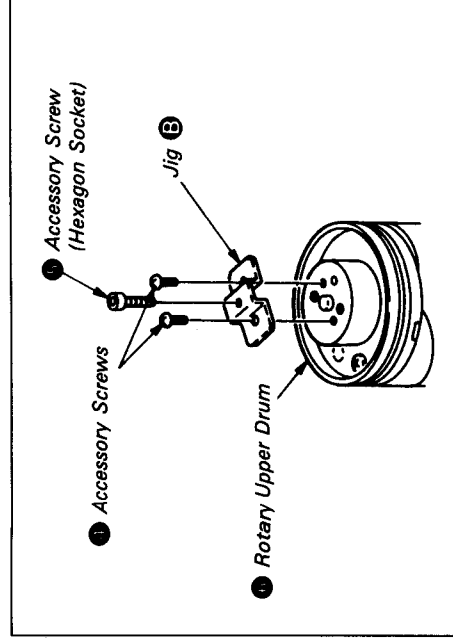

Fig. 7-46.
- 4) Mount the dismantling Jig ❺ with the accessory screws ❶ utilizing the screw holes in which the dynamic damper was mounted. Drive the hexagon socket screw ❶ into the jig ❺ and remove the rotary upper drum ❷. (See Fig. 7-46.)